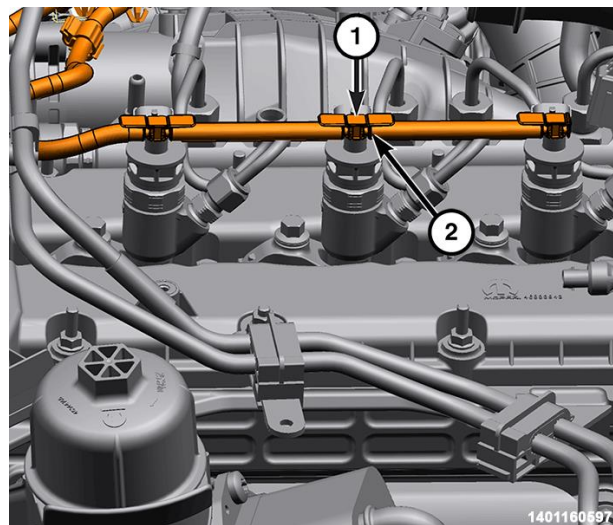

Figure 27 – Locking Tabs
11. Lift up the locking tab (1) to unlock it (Figure 27).
12. Disconnect the fuel return line (2) by wiggling the hose free from the fuel injector (Figure 27).